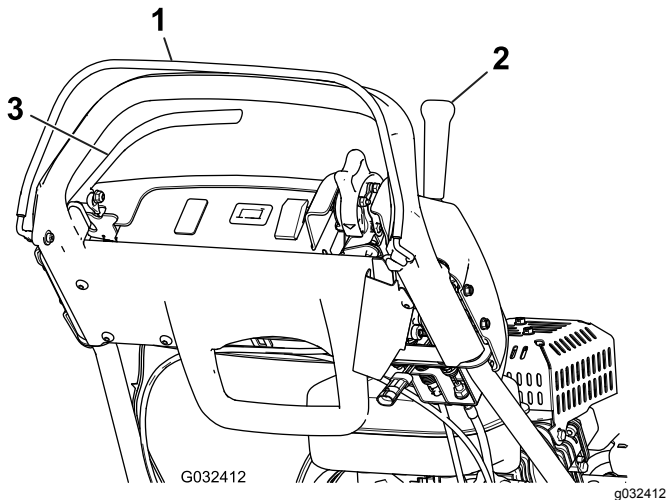

Figure 29
3. With the OPC released, attempt to engage the traction lever (Figure 29). The traction lever **should not** engage. If the traction lever engages, the interlock system needs service. Correct the problem before operating the machine; refer to Servicing the Traction-Interlock Switch \(page 31\).
4. With the OPC pressed and the traction lever engaged, release the OPC (Figure 29). The traction lever **should** disengage. If the traction
5. With the OPC pressed and the shift lever moved to the left, engage the traction and reel drive and release the OPC (Figure 29). The traction lever **should** disengage. If the traction lever does not disengage, the interlock system needs service. Correct the problem before operating the machine; refer to Servicing the Traction-Interlock Switch \(page 31\) or Adjusting the Reel Control \(page 35\).
6. With the OPC pressed and the shift lever moved to the left to engage the traction and reel drive, move the shift lever to the right to disengage the reel drive (Figure 29). The reel drive **should** disengage. If the reel drive does not disengage, the interlock system needs service. Correct the problem before operating the machine; refer to Adjusting the Reel Control \(page 35\).
2. With the OPC pressed, the traction lever engaged, and the engine controls in the starting position (Figure 29), attempt to start the engine. The engine **should not** start. If the engine starts, the interlock switch needs service. Correct the problem before operating the machine; refer to Servicing the Traction-Interlock Switch \(page 31\).
2. With the traction lever disengaged, the service brake engaged, and the engine controls in the starting position (Figure 29), attempt to start the engine. The engine **should** start. If the engine does not start, the interlock switch needs service. Correct the problem before operating the machine; refer to Servicing the Brake-Interlock Switch \(page 32\).
OPC, and engage the traction lever (Figure 29). The engine should labor to overcome the brake but should not shut off. If the engine shuts off immediately, the interlock switch needs service. Correct the problem before operating the machine; refer to Servicing the Brake-Interlock Switch \(page 32\).
4. With the engine running, engage the parking-brake latch, press the OPC, and engage the traction lever (Figure 29). The engine **should** shut off. If the engine does not shut off, the interlock switch needs service. Correct the problem before operating the machine; refer to Servicing the Brake-Interlock Switch \(page 32\).